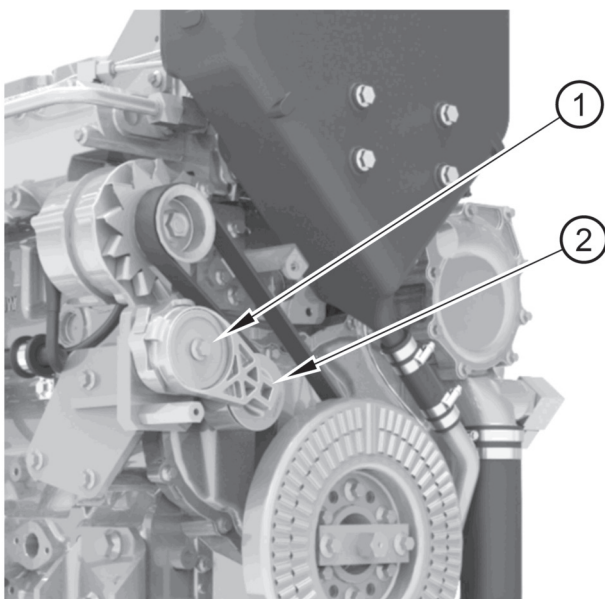

Figure 15
2. Insert a square drive tool (figure 15 item 2) into the square hole in the belt tensioner (item 1). Rotate the belt tensioner clockwise in order to relieve tension on the drive belt. Remove the belt.